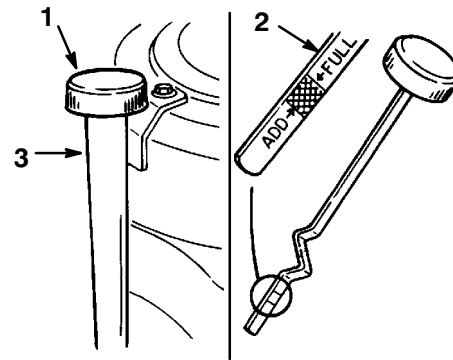

Figure 26
2. Clean around the oil dipstick (Fig. 26) so dirt cannot fall into the filler hole and damage the engine.
3. Unscrew the oil dipstick and wipe the metal end clean (Fig. 26).
4. Thread the oil dipstick fully onto the filler tube (Fig. 26). Pull the dipstick out and look at the metal end. If oil level is low, slowly pour only enough oil into the filler tube to raise the level to the "FULL" mark.
5. Slowly pour approximately 80% of the specified oil, page 25, into the filler tube (Fig. 26). Now check the oil level; refer to Checking Oil Level, page 25. Slowly add additional oil to bring to "FULL" mark on dipstick.